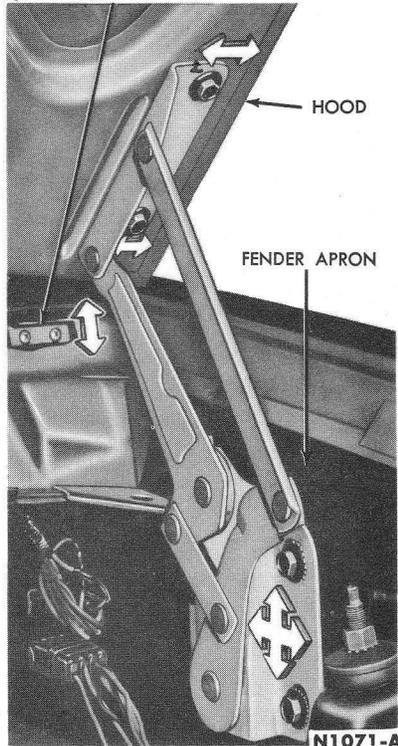

FIG. 1—Hood Hinge
3. Remove the hinge retaining bolts (Fig. 1).
5. Remove the wood block and adjust the hood and lock for proper alignment (Fig. 1).
The hood is provided with fore and aft, vertical, and side-to-side adjustments (Fig. 1). These directions refer to the position of the hood when it is fully lowered. The elongated bolt slots in the hinge at the hood provide the side-to-side adjustment. The enlarged holes in the hinge at the fender apron provide both vertical and fore and aft adjustments.
The outer panel support (Fig. 1) is adjustable to provide proper fit of the hood at the cowl pad.